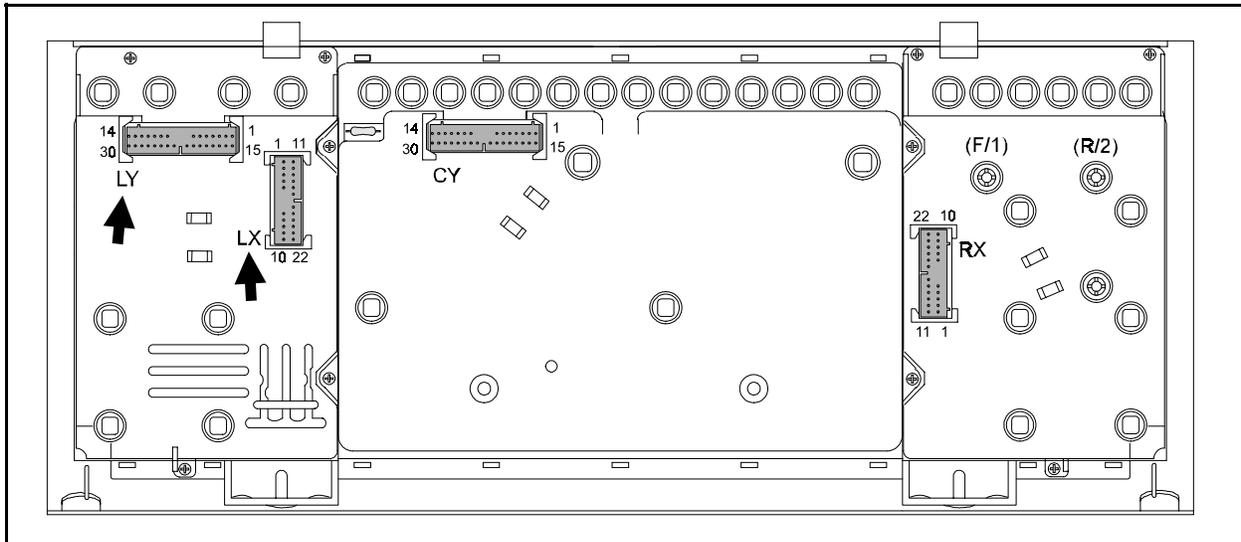

Figure 2 Cluster as seen when pivoted down from the dashboard.
- Locate the two green connectors LY and LX on the left end of the cluster and unplug them. See Figure 2 for connector location.